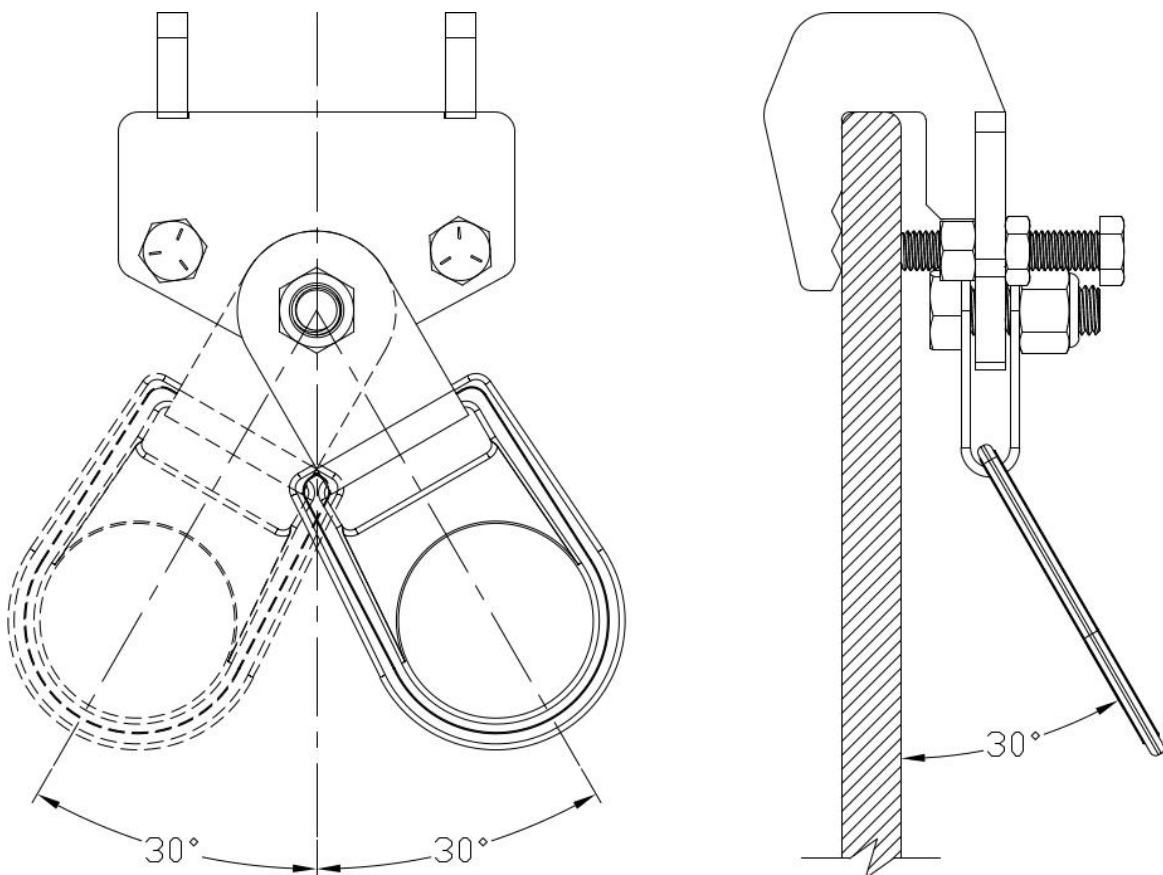

Figure 2 - Vertical Steel Plate Anchor Installation Limitations
- The angle of use is based on a 30 degree working angle from the Vertical Steel Plate Anchor. Do not exceed the working angle or the system may impart excessive swing fall and or, over load the Vertical Steel Plate Anchor or its anchorage attachment (see Fig. 2)
Proper care should always be taken to visually scan the work area prior to use. Remove any obstruction, debris, and other materials from, and beneath the work area that could cause injuries or interfere with the operation of this system. Be cautious of swing fall hazards if working horizontally to the side of the Davit. Never exceed the working fleet angle of the SRL as specified in Fig. 2.